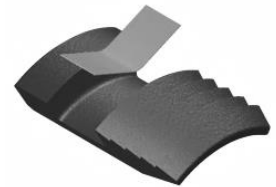

Fig. 3
**NOTE8:** Install one (1ea) spring per slip (Fig. 3).